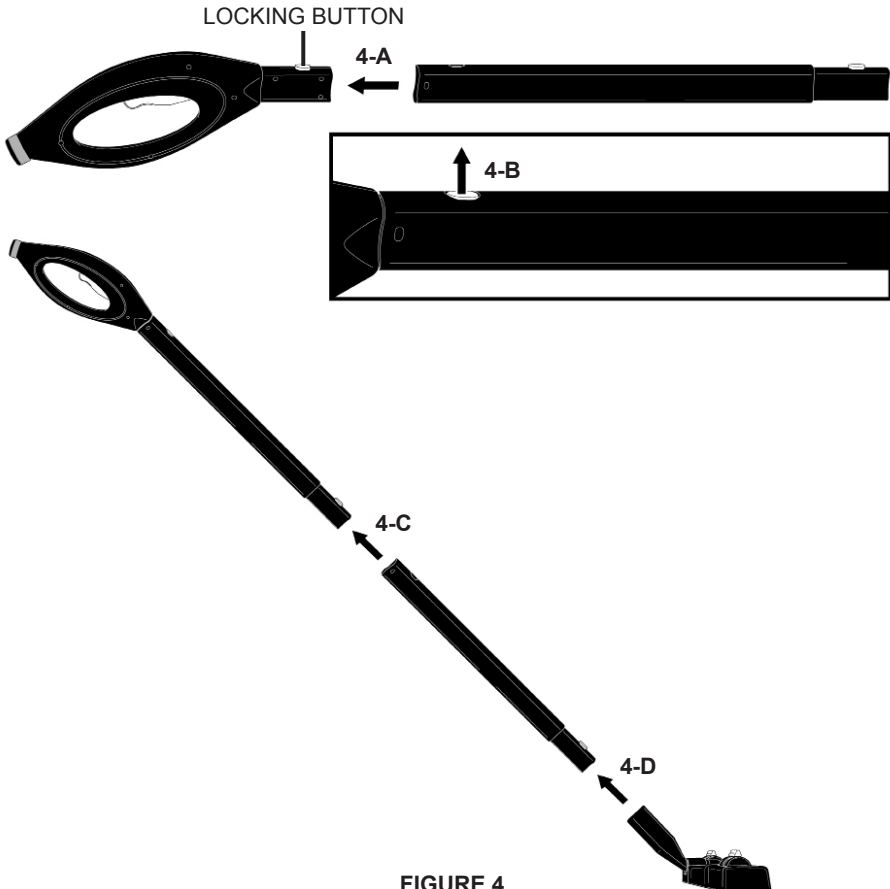

FIGURE 4
1. Select one of the Extension Wands, and align rear end of wand with Main Steam Nozzle as shown (FIGURE 4-A).
2. Press down on the locking button located on Main Steam Nozzle. While continuing to hold button down, slide Extension Wand onto nozzle. Push wand over button, and continue to push it on until button snaps through hole on Wand (FIGURE 4-B).
3. Now slide second Extension Wand onto the end of the one you just connected as shown (FIGURE 4-C). Push on firmly until locking button on first wand snaps through hole on second wand.
4. Slide Jet Nozzle (with connected Utility Head) onto end of second Extension Wand as shown (FIGURE 4-D). Push on firmly until locking button on second wand snaps through hole on Jet Nozzle.